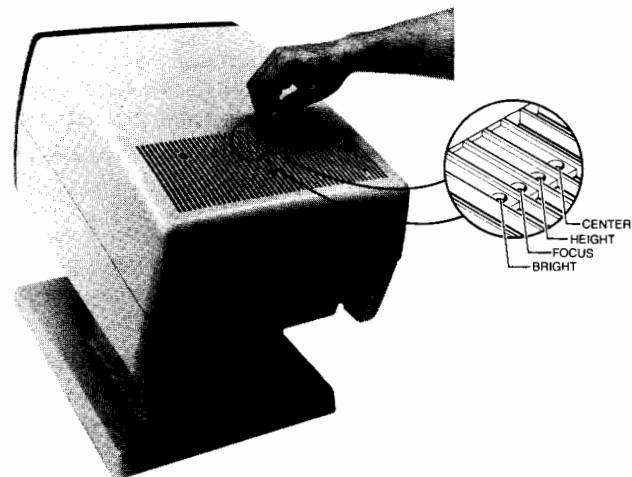

Figure 5-4. Location of Four Raster Adjustments (CENTER, HEIGHT, FOCUS, and BRIGHTNESS)
3. Using the hex end of the alignment tool, adjust the CENTER adjustment at the top of the terminal (figure 5-4) to center the display on the screen in the horizontal dimension.
5. Use the alignment tool to adjust the width adjustment on the Sweep PCA (figure 5-4) to expand or contract the display in the horizontal dimension.